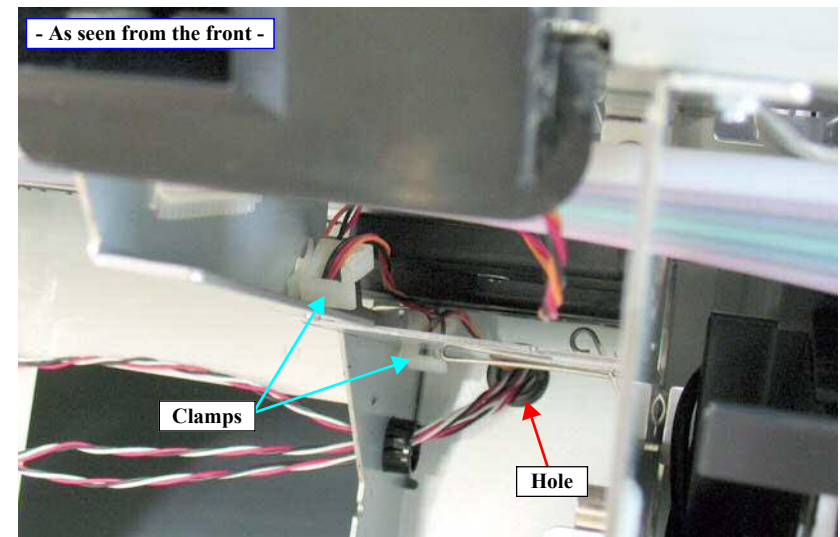

Figure 4-37. Releasing the harnesses (front)
10. Pull out the harness from the hole on the Main Frame. *See Figure 4-37.*
11. Release the cable from the two clamps. *See Figure 4-37.*